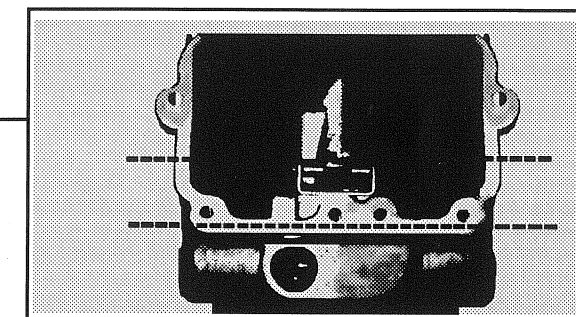

Figure 2-3. Checking float lever
2. Install nozzle gasket (44), nozzle (43), gasket (42) and plug (41).
3. Install idle tube (45).
4. Assemble pump spring (35) on diaphragm assembly (34) and attach the pump housing (33) to bowl cover (30) with screws (32).
5. If removed, install minimum fuel jet (50) and plug (49), power needle seat (48), "O" ring (47) and power needle (46).
6. Install float valve seat (39) with gasket (38) and valve (40).
7. With throttle flange down, insert float (37) and float shaft (36). Set float lever at this time. The float lever must be parallel with the flange, and must operate with proper clearance all around. Bend with needle nose pliers if necessary. (See figure 2-3).
8. Install bowl cover assembly (30) with gasket (31) and screws (29).
9. Install idle needle (51). Insert strainer (27) into plug (25) and install it with gasket (26) and fuel fitting (25).
10. Place two or three drops of light-machine oil on bearing (62) and (63). Insert "V" packing (7), retainer (6), plug (8), throttle shaft (3) with screw (5) and spring (4) in place into casting. Attach throttle valve (2) to shaft (3) with screws (1).
11. Install choke shaft plug (24) and choke packing (23). Install choke bracket (20) on casting with screws (19). Clip (21) and screw (22) should be in place.
12. Assemble the choke shaft (11) by attaching spring (12), lever (13), snap ring (14), swivel (17), cotter pin (15) and screw (16).
13. Slide washer (18) on shaft (11) and install it in casting. Install choke valve (10) with screws (9).